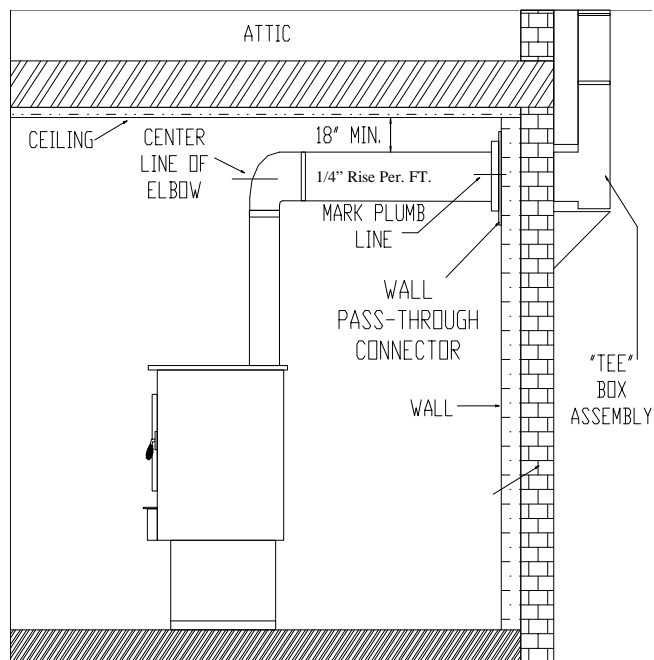

FIGURE 6
1. Mark plumb line on the wall directly behind the center of heater. (See Figure 6.)